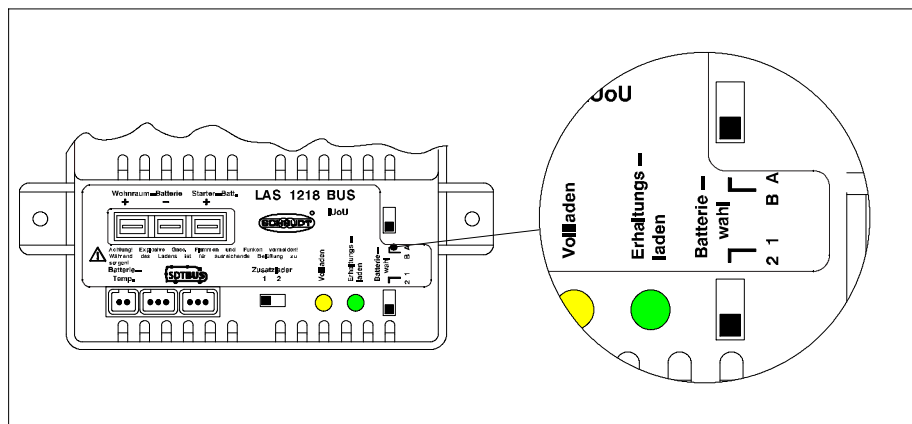

Fig. 8 Battery selector switch
- Move the battery selector switch (see Fig. 8) to the correct position using a thin object, such as a ball point pen: